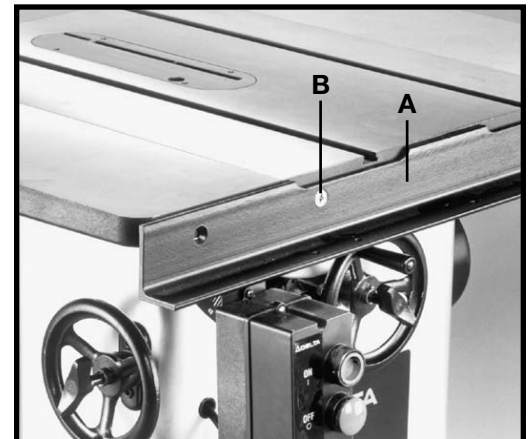

Fig. 11
1. Assemble the front rail (A) Fig. 11, to front of saw table using the two 3/8-16 x 1-1/4" long flat head Phillips screws (B), 7/8" flat washers, lockwashers and 3/8-16 hex nuts supplied. Screws (B) are inserted through the two holes in the front rail, as shown and through the two through holes in the front of the saw table and fastened to the table with the flat washers, lockwashers and hex nuts. **IMPORTANT:** Do not completely tighten front rail mounting hardware at this time.